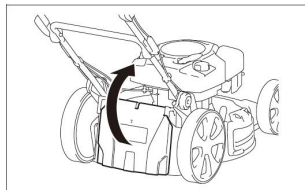

Fig. 9A
6.3.1. Lift the rear discharge guard, assemble the chute flap and close the rear discharge guard; Fig.9A/B/C